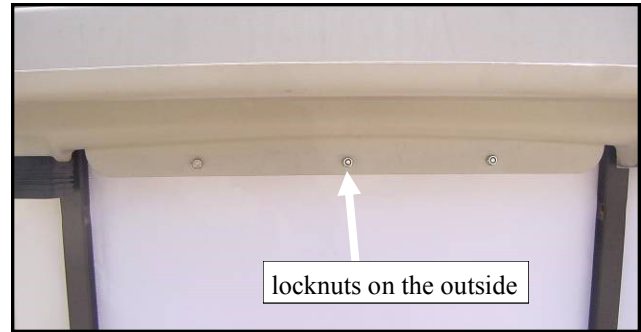

Fig. 3.3 (view from rear, old style roof)
3.3 Per figures 3.3, 3.3a, and the hole pattern sketch in the middle of the page, drill $\frac{7}{32}$ " diameter holes through the rear plastic flange. All three holes to be $\frac{1}{2}$ " up from the bottom of the plastic flange. Locate the first hole directly in the center. From the first center hole mark, locate the other two holes at $5\frac{1}{2}$ " on both the left and right side of center. Install the snaps so the locknuts are outboard as shown in figures 3.3 and 3.3a.